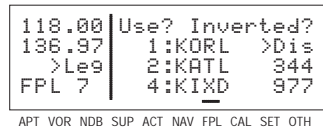

Figure 4-26
- Press **ENT** to load the active flight plan into this numbered flight plan (figure 4-26).